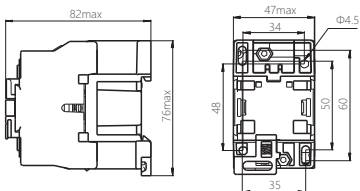
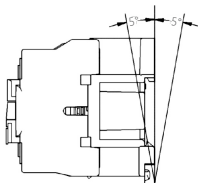

Figure 1 Overall and installation dimensions
Figure 2 Relay installation diagram
3.1 See Figure 1 for relay outline and installation dimensions, See Figure 2 for installation diagram.